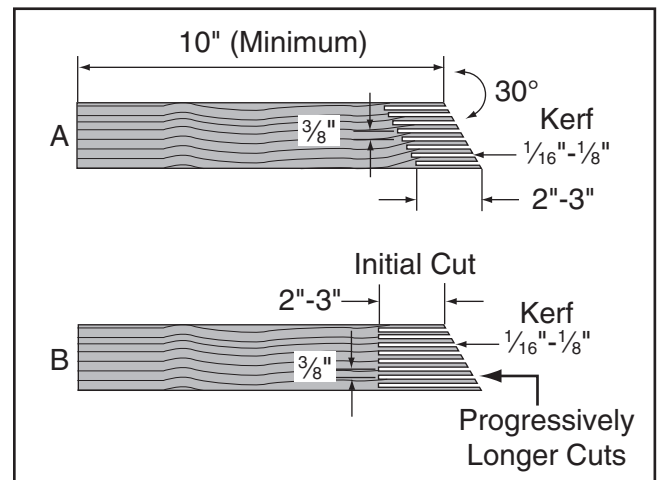

Figure 63. Patterns for featherboards (top view shown).
3. Make a series of end cuts with the grain $\frac{3}{8}$ "– $\frac{1}{4}$ " apart and 2"–3" long, as shown in **Figure 63 (A)**. Alternatively, start cuts at 2"-3" deep, then make them progressively deeper, as shown in **Figure 63 (B)**.